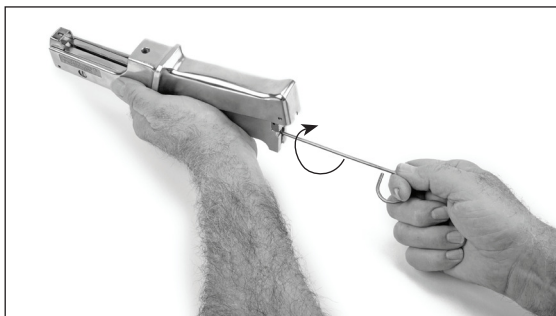

Figure 1. Turn ring 90°
- 3.2 Turn 90° clockwise to lock. See Figure 1.